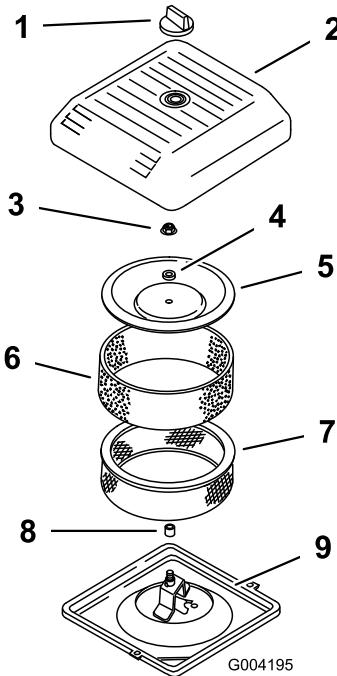

Figure 25
4. Unscrew the knob and remove the air cleaner cover (Figure 25).
5. Carefully slide the foam pre-filter off of the paper element (Figure 25).
6. Unscrew the cover nut and remove the cover, spacer and paper filter (Figure 25).
2. Place the air cleaner assembly onto the air cleaner base (Figure 25).
3. Install the cover, spacer and secure it with the cover nut (Figure 25). Torque the nut to 95 inch-lb (11 N·m).
4. Install the air cleaner cover and secure with the knob (Figure 25).